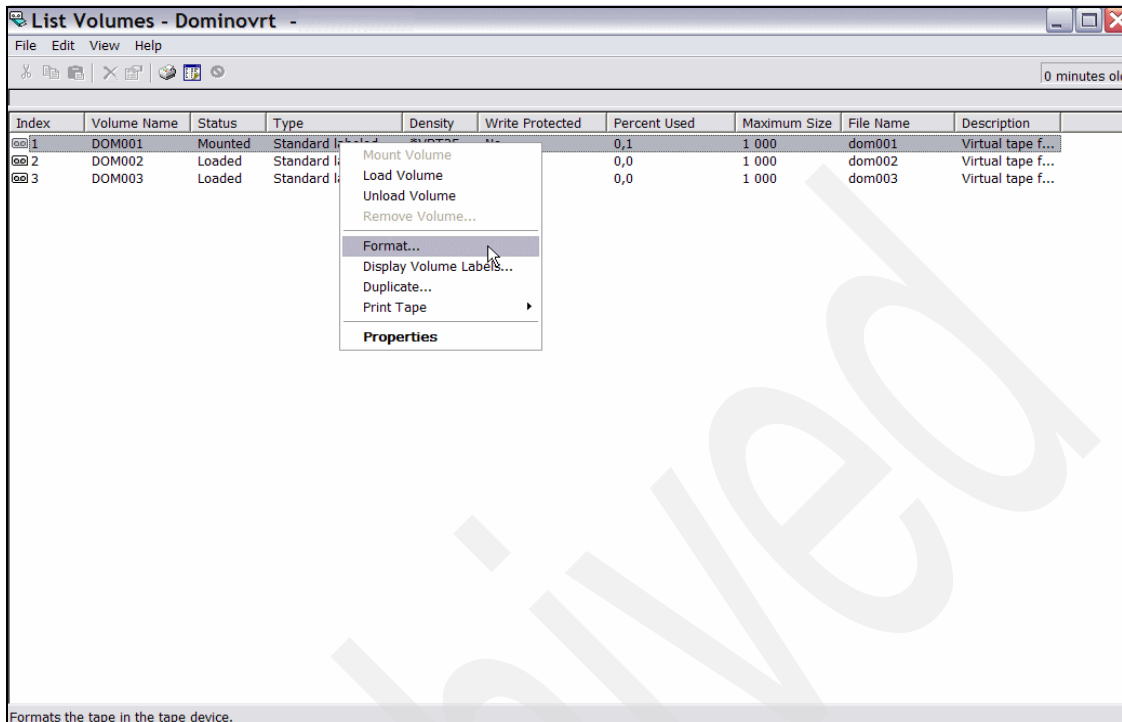

Figure 5-11 Domino with BRMS virtual tape, select volume for format
11.To format, right-click the mounted volume and select **Format**, as shown in Figure 5-11 on page 199.